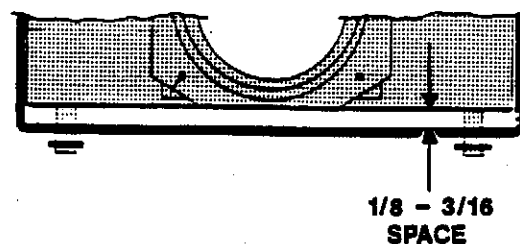

FIGURE 16
7. Wind the cable clockwise on the outer spool until the carriage is pulled back from the inner face of the base assembly (See FIGURE 16) 3-5mm (1/8 to 3/16").